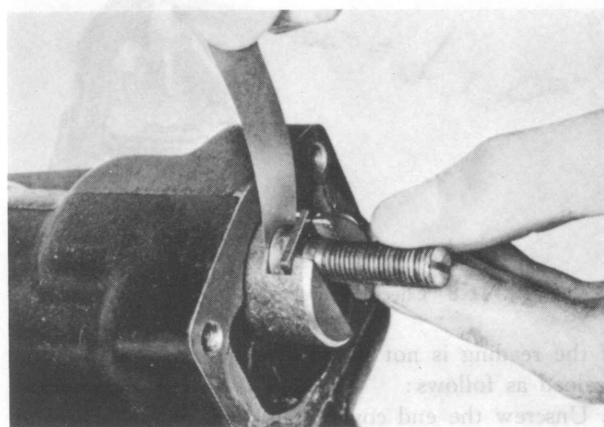

Fig. 11-6 Checking end clearance
3. Install the adjusting screw into the slot at the end of the sector shaft. Check the end clearance with a feeler gauge, as shown in Fig. 11-6, and adjust this clearance to 0.02~0.08 mm. (0.0008~0.0031 in.) by inserting appropriate shims. The shims are available in the following four thicknesses: